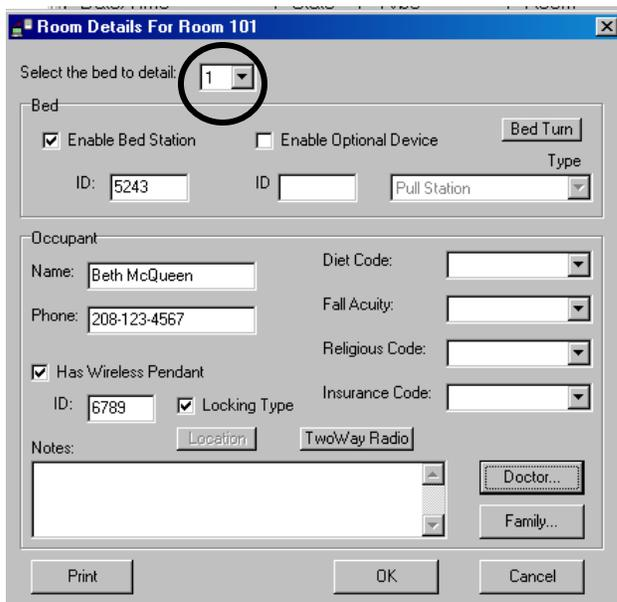

Figure 27
- When in the **Details** area be sure to select the particular bed a device is to be added to by using the pull down menu at the top of the screen (see **Figure 27**). Enter the ID number, a four or five digit number located on the bottom side of the transmitter or pendant, into the ID space provided.